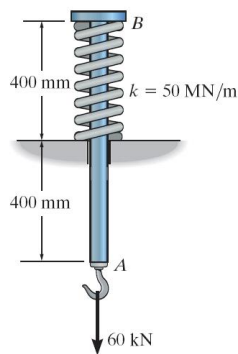

Fig.2
2-1. If the 20-mm diameter rod in Fig.2 is made of A-36 steel ($E=200\text{GPa}$), and the stiffness of the spring is $k=50\text{ MN/m}$. Determine the displacement of end A when the 60 kN force is applied. (計算-axial load-靜定)
2. The 17.5-kN automobile show in Fig.2 is traveling down the 10° inclined road at a speed of 6 m/s. if the driver jams on the brakes, causing his wheels to lock, determine how far *s* his tires skid on the road. The coefficient of the kinetic friction between the wheels and the road is $\mu_k = 0.5$.